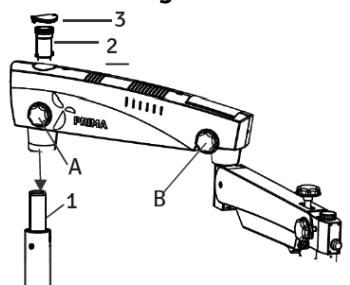

Fig. 38
3. Remove the arm assembly from the box and follow the instructions below (see Fig.38).
Do not unscrew knob A completely. see fig.38.
- Place the arm assembly on the column shaft (1) shown in Fig. 38.
- Screw in the threaded plug from the top (2).
- Put the protective cap (3) in place, and loosen the suspension arm locking knob (B) so that it can be rotated.